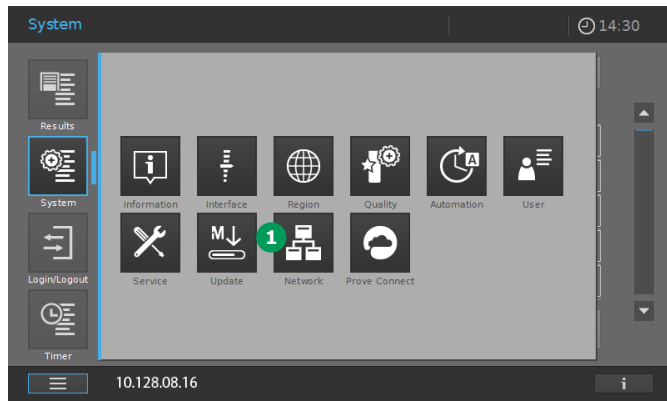

Figure 23 - Screen of Spectroquant® Prove after clicking on "System"
1. Open the Network tab ① (Figure 23) in the Prove System menu.